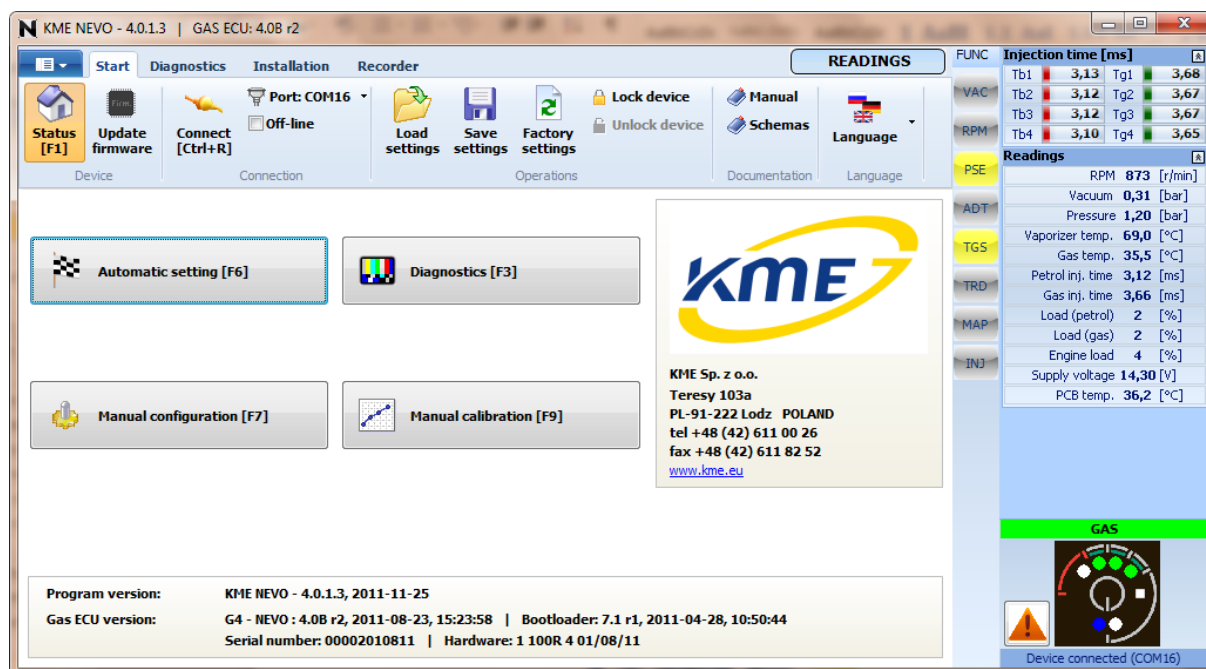

Fig. 3.1 Starting view.
After launching the program the starting window appears on screen (**Fig. 3.1**). After installation and launching, the program should automatically connect to the controllers through COM or USB interfaces.
- **Status** (F1) – shown after starting the program, indicates current driver and program status: firmware and software version; it has four button(Fig. 3.1 Starting view.)